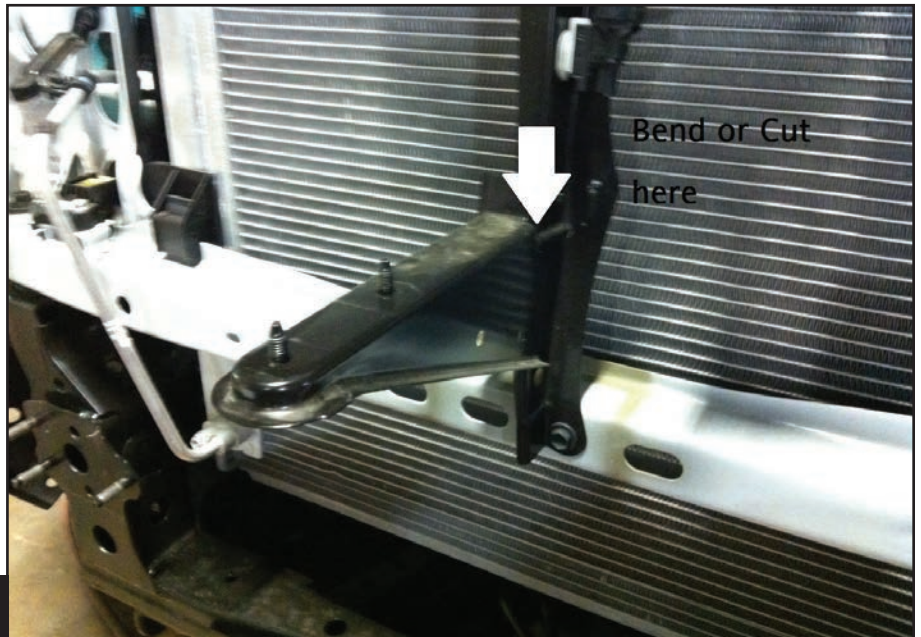

Fig 11
12. Bend or remove the center support bracket for the bumper cover. This will get in the way of your winch access whole. You can cut it off or just bend it back parallel to the radiator (**Fig 11**).